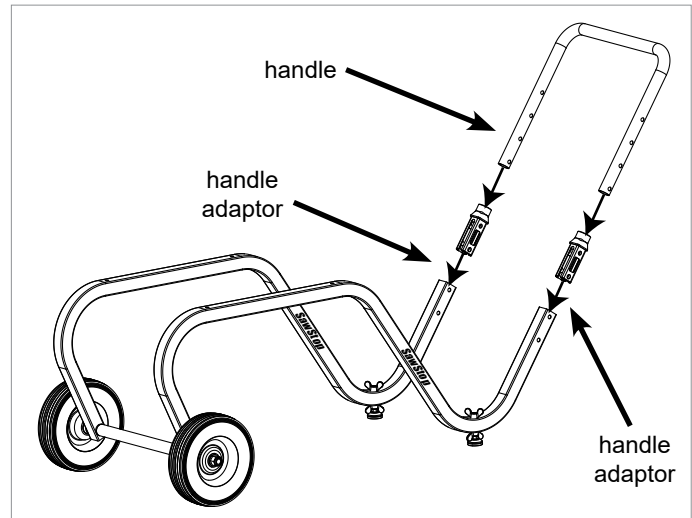

Fig. 8
- Insert one handle adaptor into the open end of each side frame, as shown in Fig. 8, making sure each adaptor is oriented so its holes align with the holes in the side frame. Then insert the handle into the two adaptors until two of the holes in each end of the handle align with the holes in each side frame. Each end of the handle has four holes so the handle can be set at one of three different heights. Choose whichever height is most comfortable.